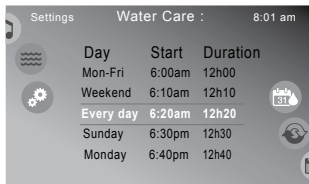

Figure 12.1f
2. Then tap the plus sign, **+**, to add a new cycle or tap the cycle to change, Weekend 1:00am 1h30 . The display will change to Figure 12.1f.